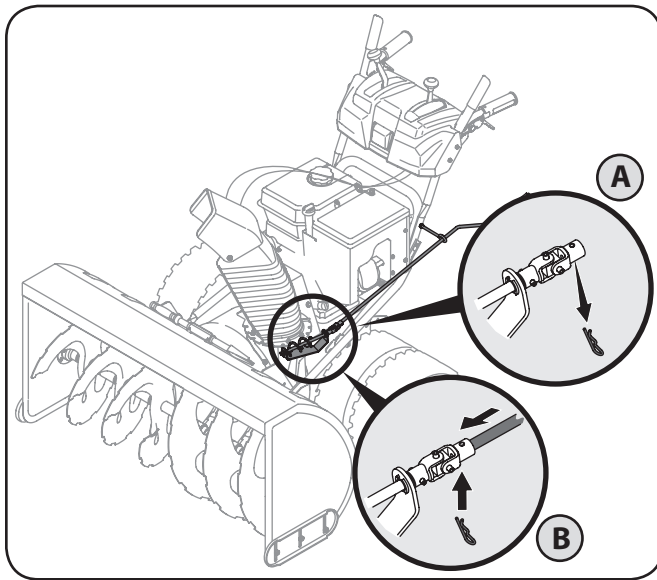

Figure 3-4
1. Remove the hairpin clip from the spiral control as shown in Figure 3-4.
2. Insert the chute directional control rod into the fitting on the spiral control as seen in Figure 3-4.